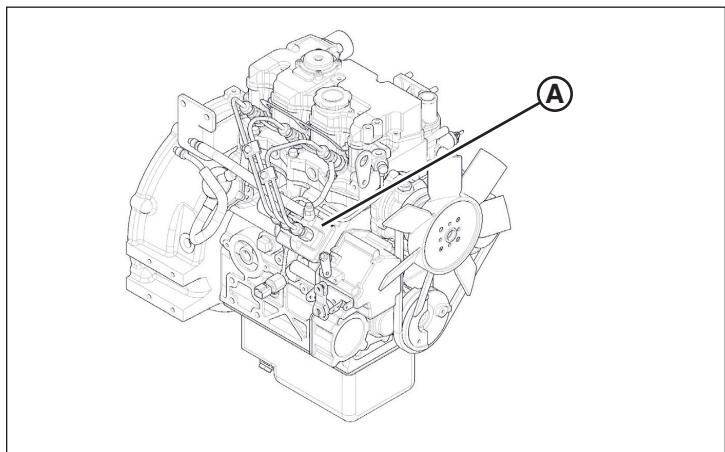

Figure 27
**Kubota:** The engine has a serial number plate (**A**, Figure 27) attached on the upper right side of the engine block above the fuel injection pump.